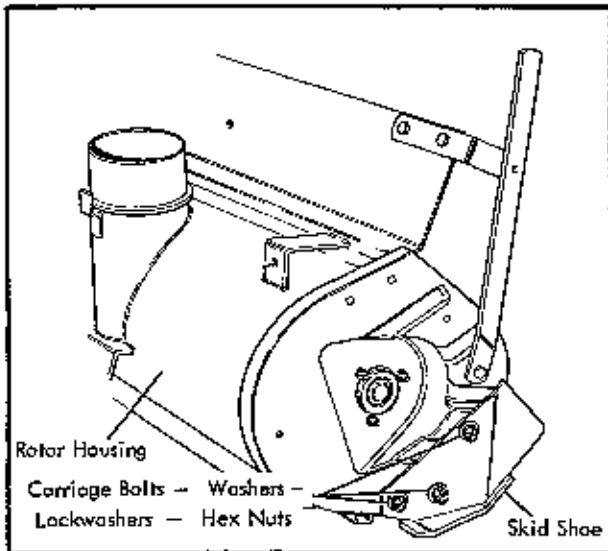

Fig. 2
2. Assemble the skid shoes to each side of the rotor housing as shown in figure 2.